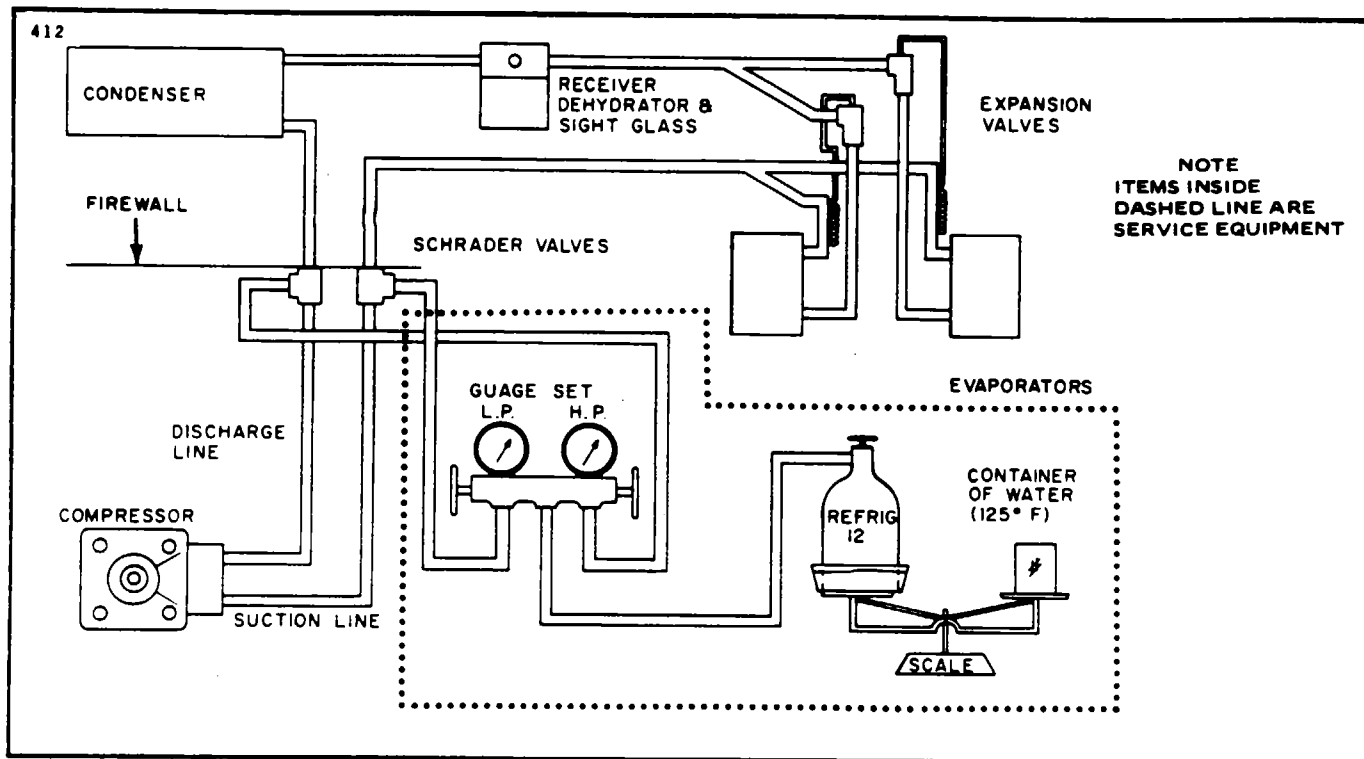

Figure 14-38. Charging Hookup
1. Close both valves on a standard gauge set. Connect the red high pressure hose from the gauge set to the high pressure Schrader valve on the fire wall fitting. Connect the blue low pressure hose from the gauge set to the low pressure Schrader valve on the fire wall fitting. (Refer to Figures 14-38 and 14-42.)
1. Using lines long enough to extend from the rear of the wing, connect the gauge set to the fire wall fitting Schrader valves. Connect the low pressure gauge to the suction side and the high pressure gauge to the discharge side. (Refer to Figures 14-38 and 14-42.) Secure the gauge set to prevent movement and aircraft damage from prop blast.
14-105. COMPRESSOR REMOVAL. (Refer to Figures 14-38 and 14-39.)